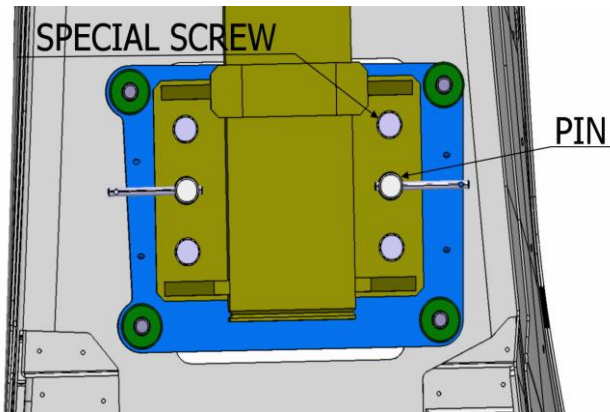
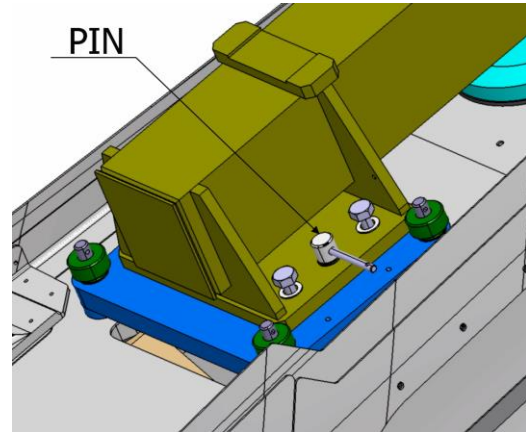

Figure 32: PEC 139-003-01-03 FIXING.
Figure 33: Phase 4 - T.G.B. FITTING INSTALLATION.
5. Lock ITEM 2 to ITEM 3 using the four special screw shown in the fig.32.
2. Lock the ITEM 3 to the ITEM 2 using the pins and screws in the figure 32 and in the figure 33.